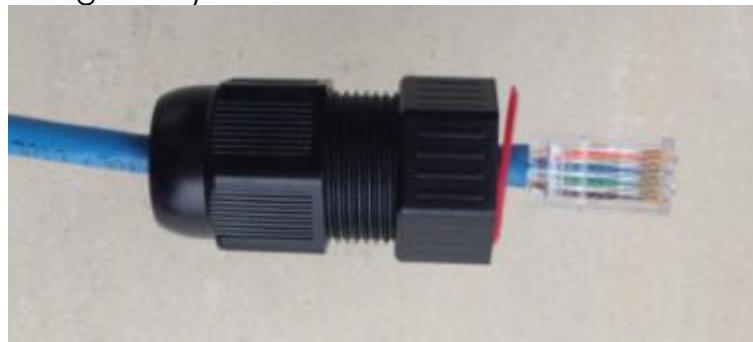

Figure 11 - Use the crimping tool to crimp the RJ-45 connector to the Ethernet cable
5. Use the crimping tool to crimp the RJ-45 connector to the Ethernet cable (see Figure 11).